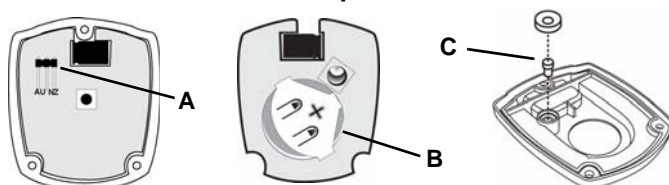

Figure 2 Transmitter internal components
**Caution:** Carefully separate the rear housing cover, ensuring the reset button plunger assembly does not fall out of the housing (Figure 2).
2. Slide the battery under the battery holder, ensuring that it is fully inserted and that the positive terminal (+) faces up (Figure 2).
4. Turn the board over to access the side with the frequency band selection pins (Figure 2).
4. Slide the new battery under the battery holder, ensuring that it is fully inserted and that the positive terminal (+) faces up (Figure 2).